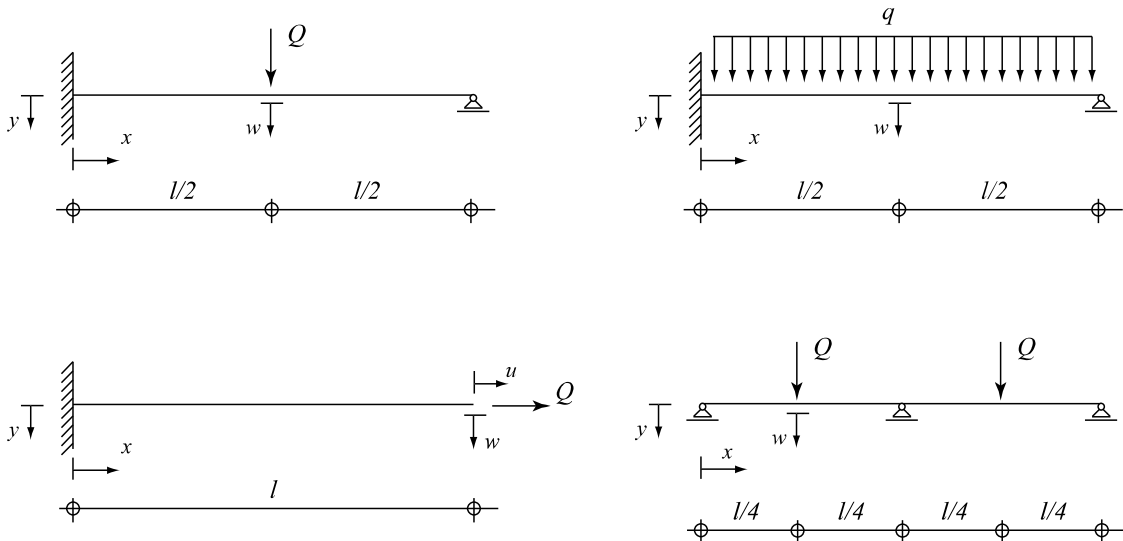

Figure 2: Static systems.
- C) Calculate the displacements at the indicated points (w and u) for the static systems given in Figure 2. Discretise the system into 32 elements in x -direction and 8 elements in y -direction. Compare the results with the analytical solution. Discuss the distribution of the stress in the beam. Describe how you applied the load to the system. Please use the same properties of the beam assumed in B).